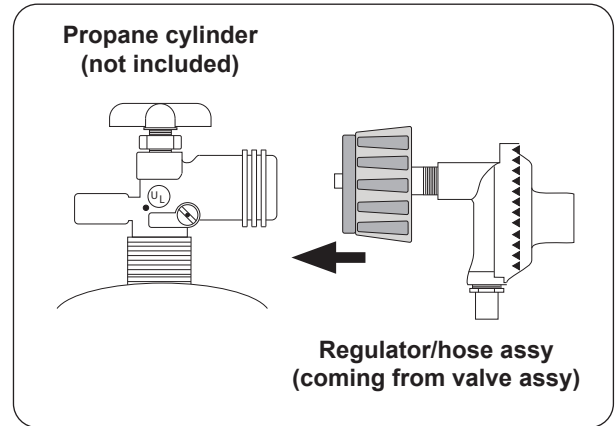

Fig. 20-1 Connecting to an L.P. cylinder
2. Attach the regulator end of the hose assembly to a propane cylinder (not included) and tighten (see Fig. 20-1).